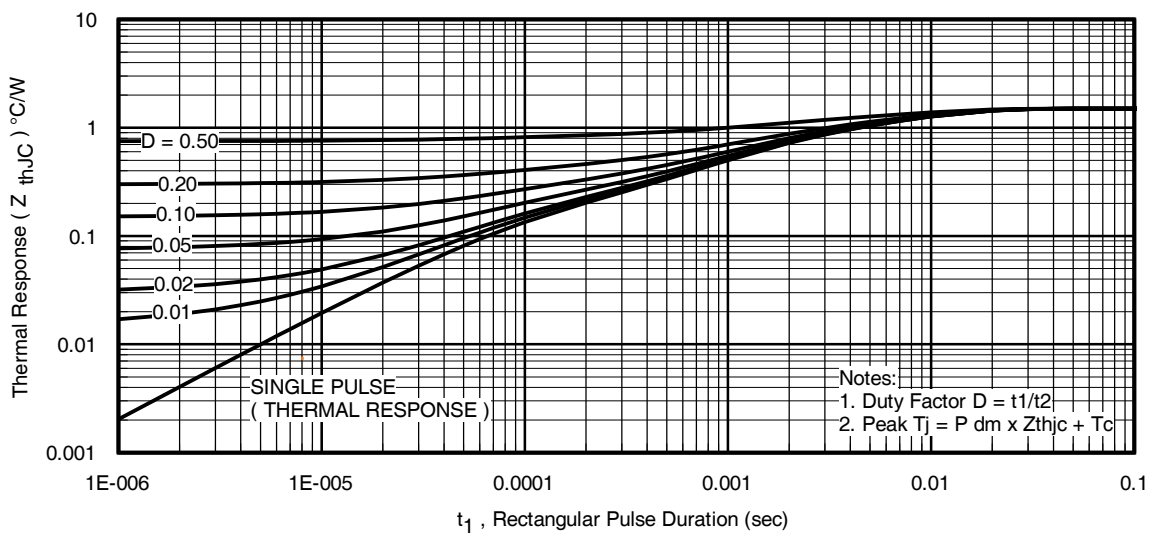
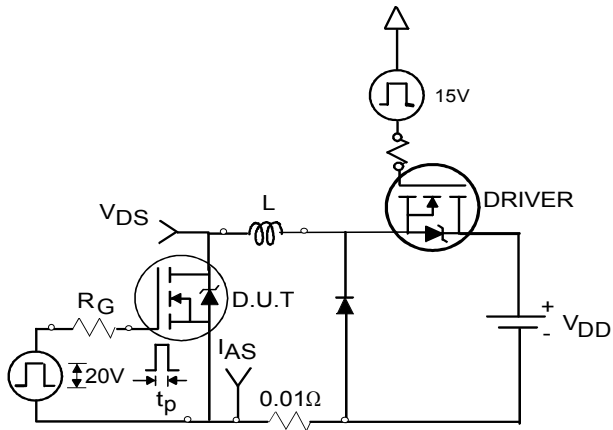

Fig 11. Maximum Effective Transient Thermal Impedance, Junction-to-Case
Fig 12a. Unclamped Inductive Test Circuit
- ① Repetitive rating; pulse width limited by max. junction temperature. (See fig. 11)
- ② Limited by T_{Jmax}, starting T_J = 25°C, L = 8.1mH, R_G = 50Ω, I_{AS} = 5.6A, V_{GS} = 10V. Part not recommended for use above this value.
- ③ Pulse width ≤ 1.0ms; duty cycle ≤ 2%.
- ④ C_{oss eff.} is a fixed capacitance that gives the same charging time as C_{oss} while V_{DS} is rising from 0 to 80% V_{DSS}
- ⑤ Limited by T_{Jmax}, see Fig.12a, 12b, 15, 16 for typical repetitive avalanche performance.
- ⑥ This value determined from sample failure population. starting T_J = 25°C, L = 8.1mH, R_G = 50Ω, I_{AS} = 5.6A, V_{GS} = 10V.
- ⑦ When mounted on 1" square PCB (FR-4 or G-10 Material). For recommended footprint and soldering techniques refer to application note #AN-994
- ⑧ R_θ is measured at T_J approximately 90°C
3. Equation below based on circuit and waveforms shown in Figures 12a, 12b.